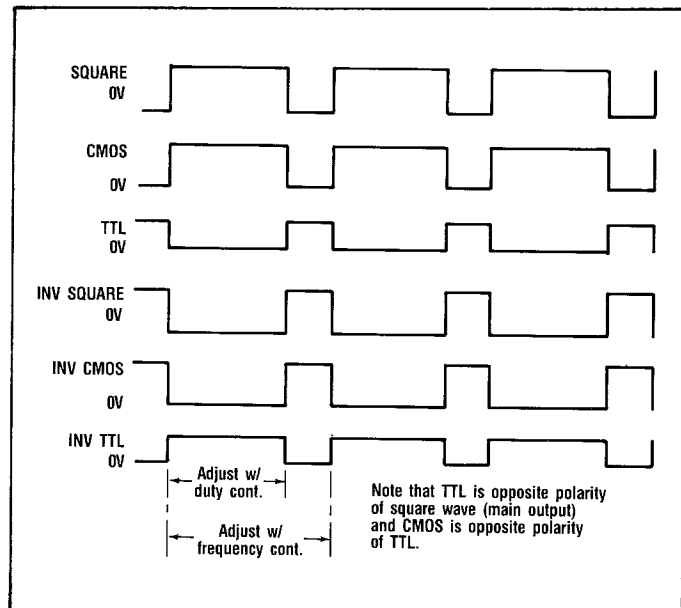

Fig. 4. Output Waveform And Phase Relationship.
3. Select the waveform desired (square, triangle, or sine) by depressing the appropriate **FUNCTION** switch. The phase relationships of the waveforms available are shown in Fig. 4. Be sure that the **DUTY** control is set to **CAL**.